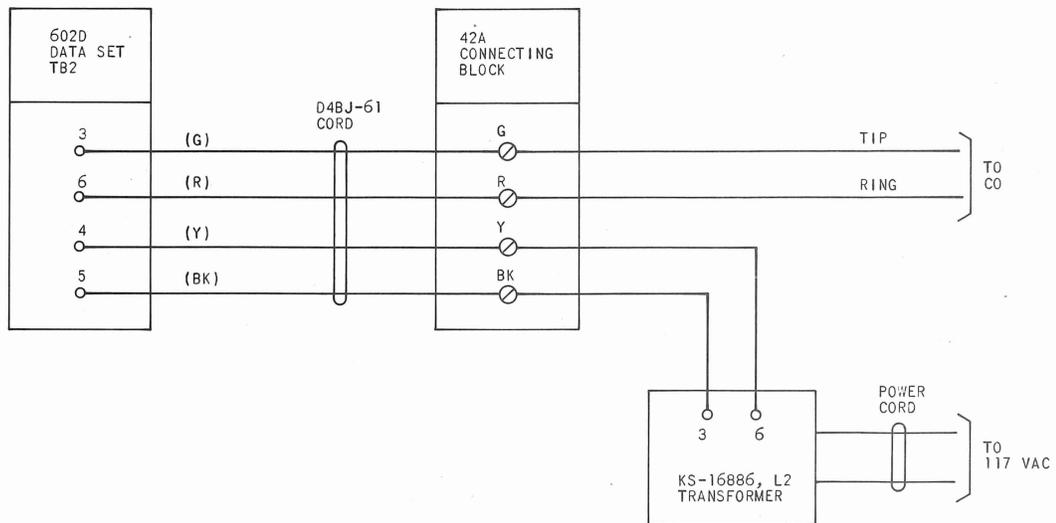

Fig. 3—Data Set 602D-Type, Line Connections
**3.05** Connections for the Data Set 602D-type to the telephone line are shown in Fig. 3.